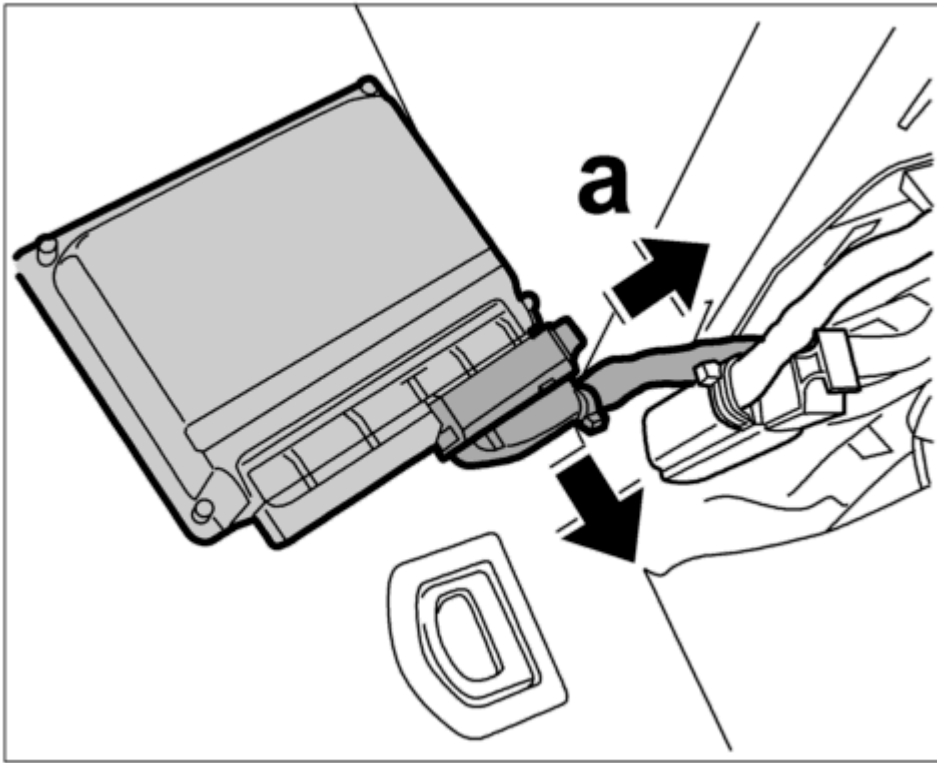

Fig. 60: Pull plug off at the bottom of the level control module.
5. Pull out control module and pull the latch on the electrical plug -a- and remove plug. See **Fig. 60.**